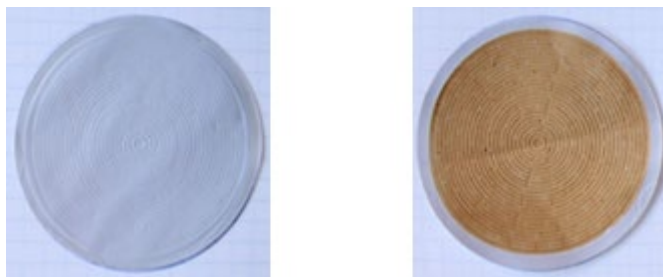

Figure 16: SDI15 filters before and after the test
**SDI (Silt Density Index):** Is a Fouling Index. This parameter provides an indication of the particulate fouling potential of the water (see Figure 16). It is based on the measurement of the time it takes to collect 500 mL of water sample through a paper filter of 0.45 μm at the start of the test ( $t_i$ ) and after the water has flowed through the filter at 2.1 bar ( $t_f$ ) for 15 minutes (T). SDI number is calculated by Equation 1: